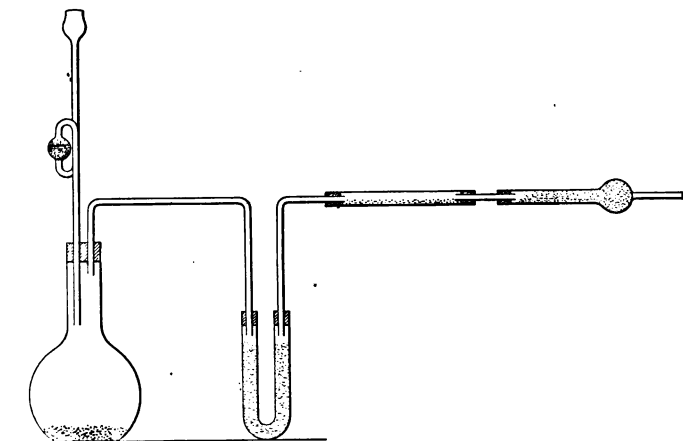

Fig. 9.
1. Arrange a train of apparatus, consisting of a hydrogen generator, a calcium chloride tube, a hard glass tube, and another calcium chloride tube (Fig. 9). Make all